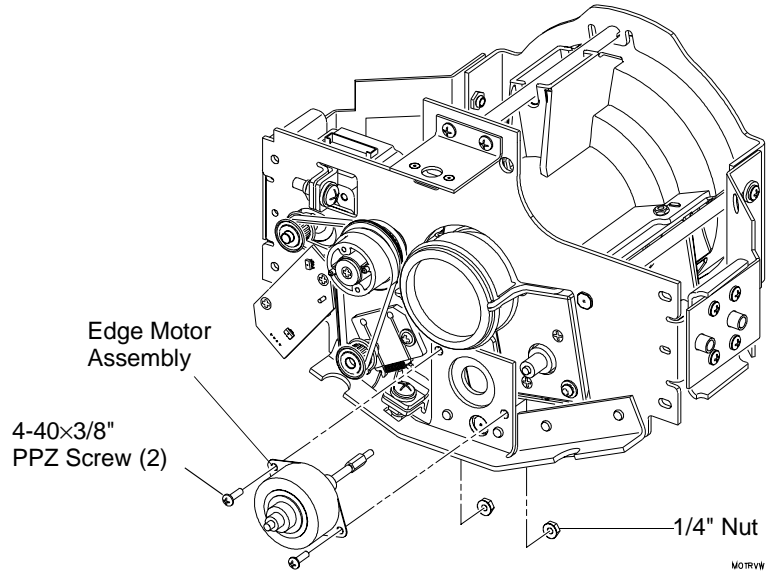

Figure 2-14: Edge Motor Assembly Replacement
Step 7. Remove two 4-40×3/8" PPZ screws and nuts which secure motor to bulkhead and remove motor assembly. **Figure 2-14.**